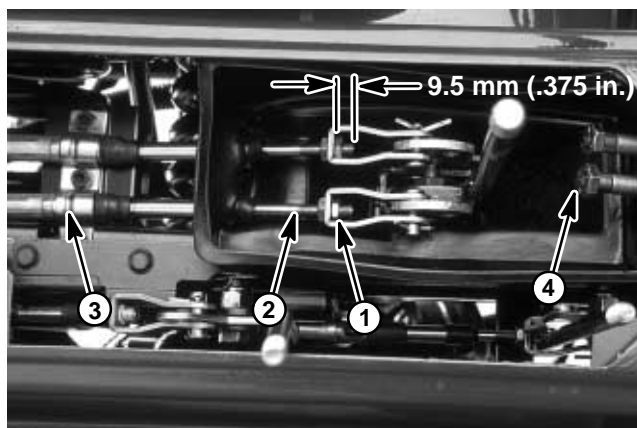

Figure 18
1. Before installing cables adjust clevis (Item 1) on 1st-Rev and 2nd-3rd cables as shown Figure 18.